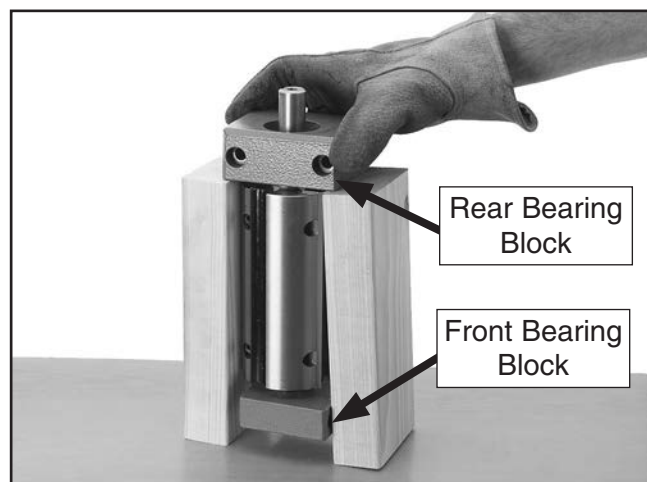

Figure 5. Removing rear bearing block.
12. Place cutterhead assembly on workbench or flat surface with pulley side of cutterhead shaft facing up, then place 2x4 blocks under rear bearing block, as shown in **Figure 5**.